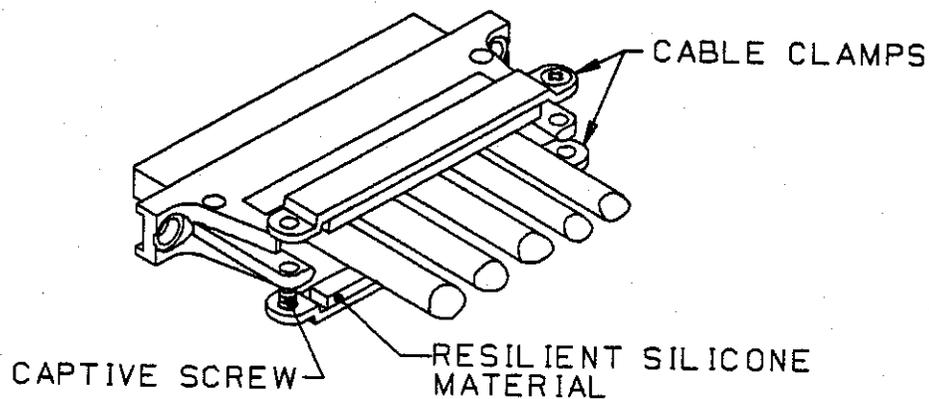

Figure 5-8. Installing Cable Clamps on MTCP Connectors
1. Align the clamps and start the screws as shown in Figure 5-8.